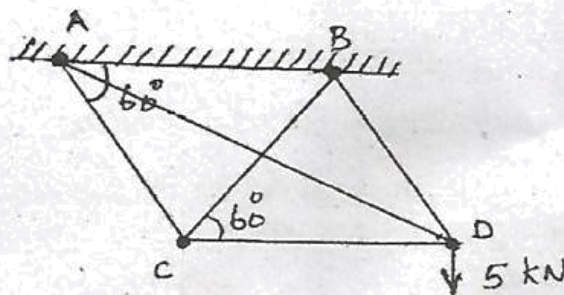

Fig Q. 11 (a)
11. (a) The frame shown in figure Q.11 (a) is pin jointed to rigid supports at A and B and the joints C and D are also pinned. The diagonals AD and BC act independently and the members are all of the same cross sectional area and material. ABC and BCD are equilateral triangles. Using energy method, find the forces in all the members if a load of 5 kN is hung at D.